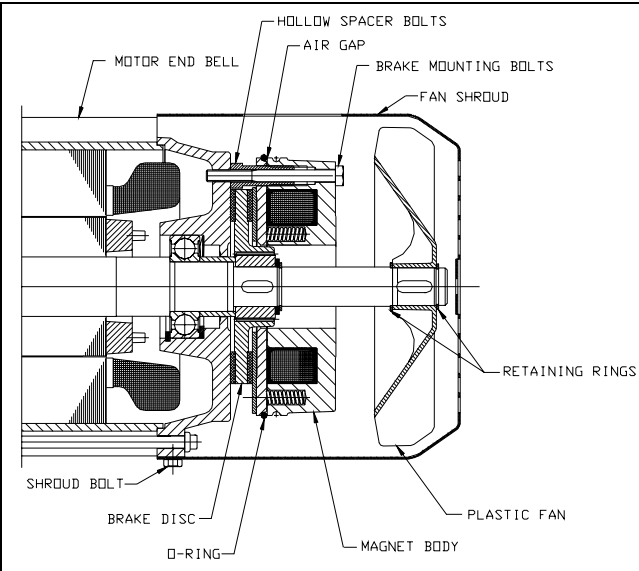

Figure 5-9. Motor Brake.
- (1) Lower hook block to the floor and relieve all load from ropes.
- (2) Make sure power to the hoist is off and locked out.
- (3) Remove the four (4) bolts attaching the fan shroud to the motor and remove the fan shroud. See Figure 5-9.
- (4) Carefully roll the large O-ring from the groove over the air gap back toward the magnet body. Do not excessively stretch this O-ring.
- (5) Measure the air gap using feeler gages. If the air gap exceeds the maximum value shown in Table 5-1, the air gap must be reset.
- (4) Remove the snap ring behind the plastic fan. Carefully remove the fan from the motor shaft. Remove the snap ring in front of where the fan was mounted.
- (5) Disconnect the two wires from the terminal block on the magnetic body.
- (6) Remove the three mounting bolts that attach the brake body to the motor end bell and remove the brake body from the motor. Remove the friction disk from the motor shaft.
- (7) Clean and inspect all components and working surfaces. Replace all damaged or worn components as necessary. Measure friction disk thickness and replace if less than the minimum thickness shown in Table 5-1.
Refer to Figure 5-9 and proceed as outlined in Section V, Paragraph 5-10.